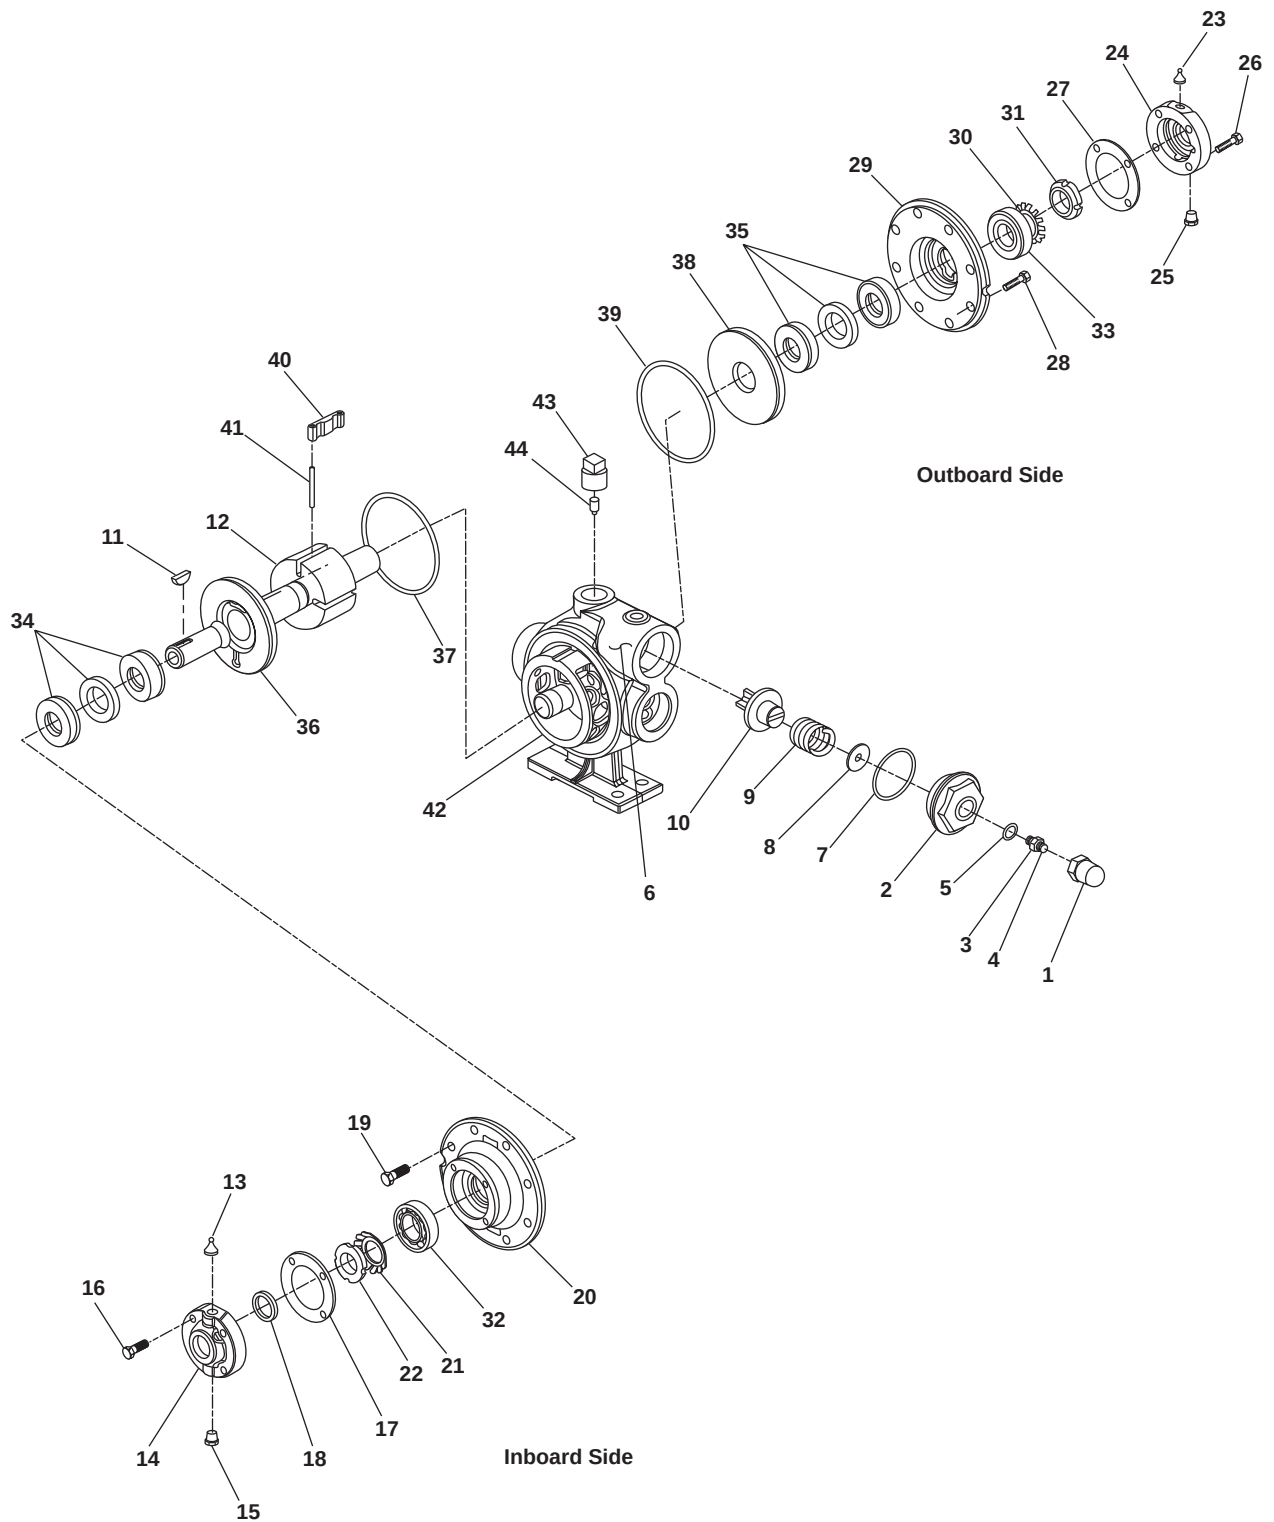
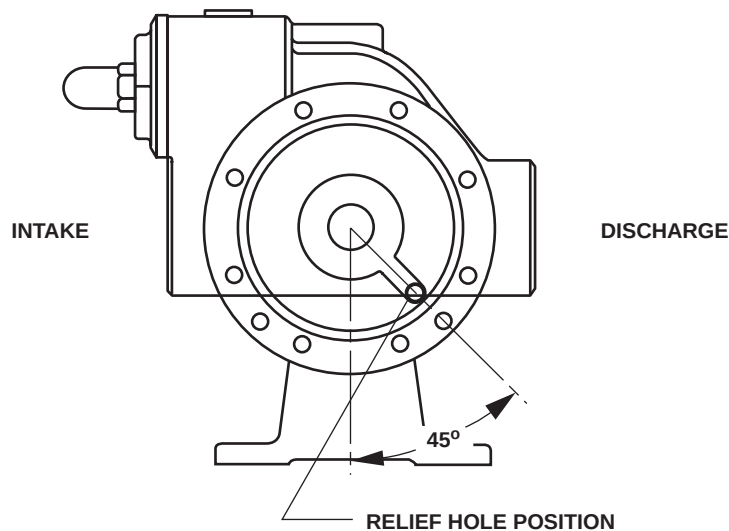
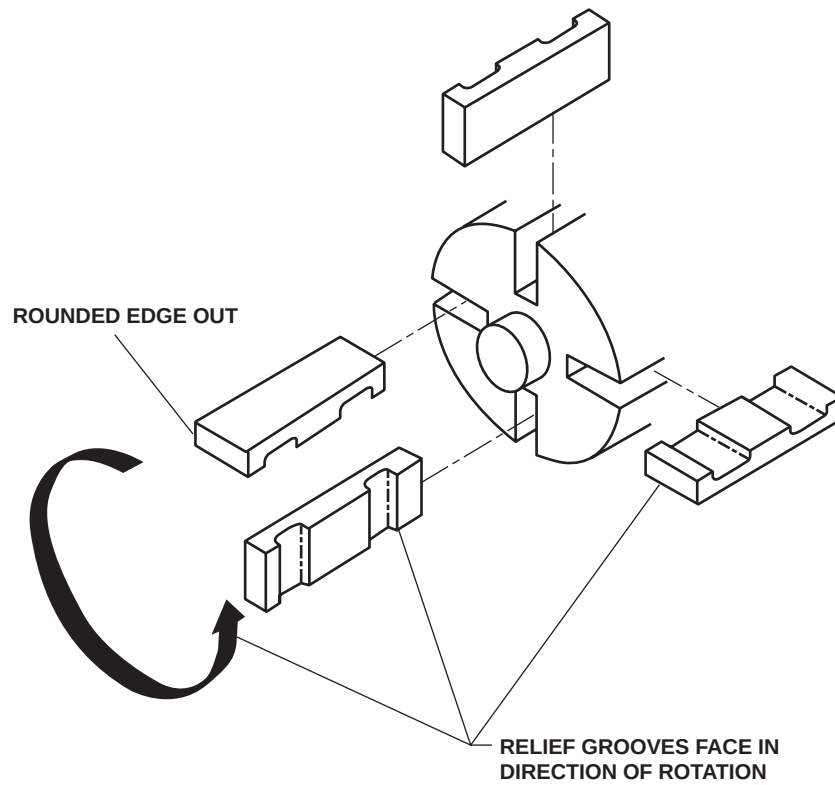

Figure 1. Fuel Oil Transfer Pump (Exploded View)
Figure 2. Fuel Oil Transfer Pump
Figure 3. Rotor / Vane Orientation
3. Remove the cover (figure 1, item 2) from the casing (figure 1, item 6).
4. Remove the O-ring (figure 1, item 7) from the cover (figure 1, item 2). Discard the O-ring.
5. Remove the washer (figure 1, item 8), the spring (figure 1, item 9), and the valve (figure 1, item 10) from the casing (figure 1, item 6).
6. Remove the woodruff key (figure 1, item 11) from the rotor and shaft assembly (figure 1, item 12).
7. Remove the grease fitting (figure 1, item 13) from the inboard bearing cover (figure 1, item 14).
8. Remove the grease fitting relief (figure 1, item 15) from the inboard bearing cover (figure 1, item 14).
9. Remove the cap screws (figure 1, item 16) from the inboard bearing cover (figure 1, item 14).
10. Slide the inboard bearing cover (figure 1, item 14), inboard bearing cover gasket (figure 1, item 17), and the grease seal (figure 1, item 18) off the rotor and shaft assembly (figure 1, item 12). Discard the bearing cover gasket and the grease seal.
11. Remove the cap screws (figure 1, item 19) from the inboard head (figure 1, item 20) and slide the head off the rotor and shaft assembly (figure 1, item 12).
12. Remove the bearing lockwasher (figure 1, item 21) and the bearing locknut (figure 1, item 22) using a locknut tool. Discard the bearing lockwasher.
13. Remove the grease fitting (figure 1, item 23) from the outboard bearing cover (figure 1, item 24).
14. Remove the grease fitting relief (figure 1, item 25) from the outboard bearing cover (figure 1, item 24).
15. Remove the cap screws (figure 1, item 26) from the outboard bearing cover (figure 1, item 24).
16. Slide the outboard bearing cover (figure 1, item 24) and the outboard bearing cover gasket (figure 1, item 27) off the rotor and shaft assembly (figure 1, item 12). Discard the outboard bearing cover gasket.
17. Remove the cap screws (figure 1, item 28) from the outboard head (figure 1, item 29) and slide the outboard head off the rotor and shaft assembly (figure 1, item 12).
18. Remove the lockwasher (figure 1, item 30) and the bearing locknut (figure 1, item 31) from the rotor and shaft assembly (figure 1, item 12) using a locknut wrench. Discard the lockwasher.
19. Remove the ball bearing (figure 1, item 32) from the inboard head (figure 1, item 20).
20. Remove the ball bearing (figure 1, item 33) from the outboard head (figure 1, item 29).
21. Remove the mechanical seal (figure 1, item 34) from the rotor and shaft assembly (figure 1, item 12).
22. Remove the remaining mechanical seal (figure 1, item 35) from the opposite side of the pump.
23. Carefully remove the disc (figure 1, item 36) and the head O-ring (figure 1, item 37). Discard the head O-ring.
24. Carefully remove the disc (figure 1, item 38) and the head O-ring (figure 1, item 39). Discard the head O-ring.
25. Remove the rotor and shaft assembly (figure 1, item 12) from the casing (figure 1, item 6) with one hand cupped underneath the assembly to keep the vanes (figure 1, item 40) and the pushrods (figure 1, item 41) from falling out.
26. Remove the vanes (figure 1 item, 40) and the push rods (figure 1, item 41) from the rotor and shaft assembly (figure 1, item 12).
27. Remove the liner (figure 1, item 42) from the casing (figure 1, item 6).
28. Remove the gauge plug (figure 1, item 43) and the liner set screw (figure 1, item 44) from the casing (figure 1, item 6).
Using dry cleaning solvent, clean all the removed parts. Check for burrs on the liner (figure 1, item 42) the rotor and shaft assembly (figure 1, item 12) the casing (figure 1, item 6), and all other removed parts. Inspect all component parts for unusual wear or damage, and replace as required.
1. Install the liner (figure 1, item 42) into the casing (figure 1, item 6).
2. Align the liner (figure 1, item 42) keyway with the liner setscrew (figure 1, item 44) bore that extends down into the casing (figure 1, item 6) and slide the liner in the casing.
3. Uniformly tap the outer edge of the liner (figure 1, item 42) with a rubber mallet to fully insert into the casing (figure 1, item 6). Install the setscrew (figure 1, item 44) and gauge plug (figure 1, item 43).